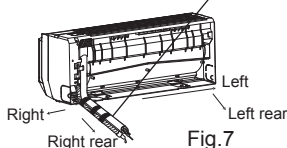

Fig.7
2. Take out the piping from body case, wrap the piping electric wire, water pipe with tape and pull them through the piping hole (As show in Fig.7)